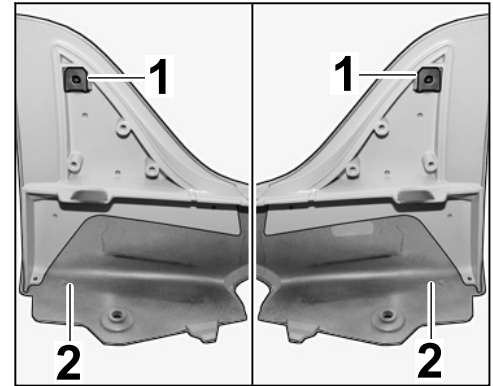

Figure 8
2.4.1 Fit speed nuts (2 x) in the new Aerokit spoiler trim (⇒ *Figure 8*).